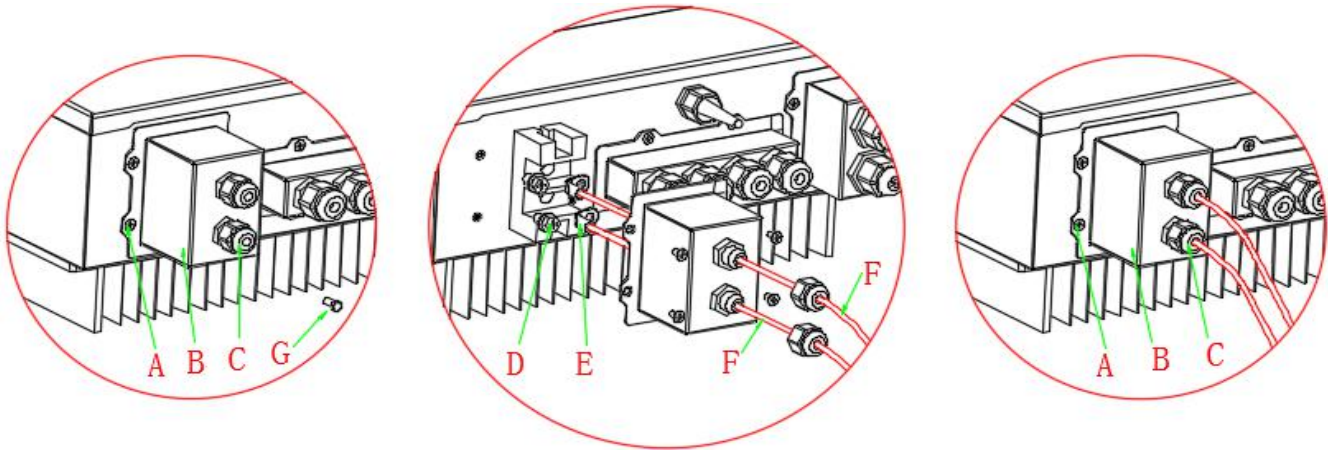

Fig. 6 Battery connection (Test battery wires polarity before connection)
- Step 1: Loosen 4 screws (part A) using a screwdriver (fig. 6)
Step 2: Loosen 4 screws (part A) using a screwdriver (fig. 6)